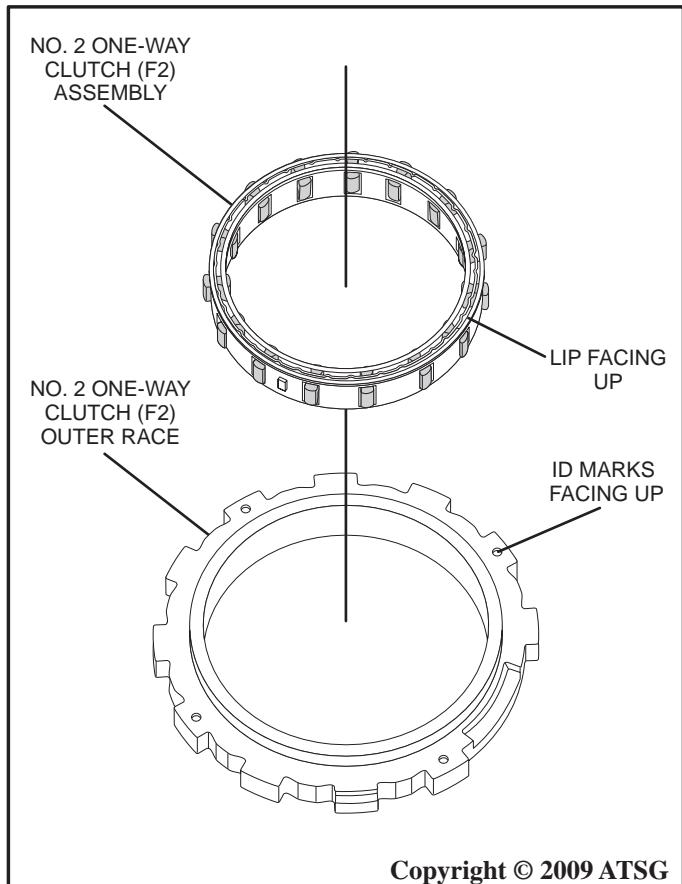

Figure 123
6. Coat the No. 2 one-way clutch (F2) with a small amount of ATF and install into the No. 2 one-way clutch (F2) outer race (*making sure the lip on the one way clutch and the id mark on the inner race are facing upward*) as shown in Figure 123.